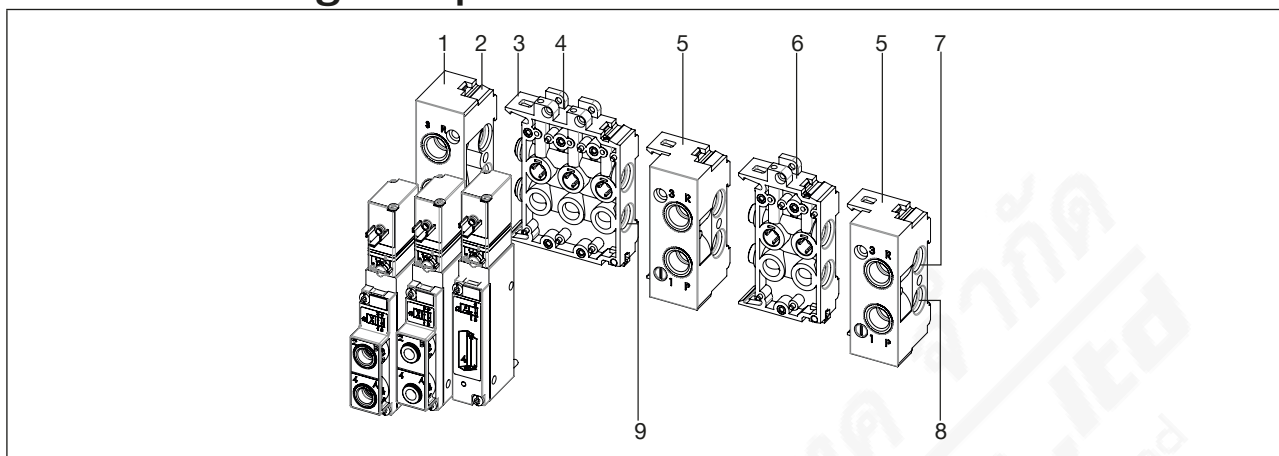

Figure 6: Example of a multi-block
- Begin installation with connection module on the left (see “Figure 6”)